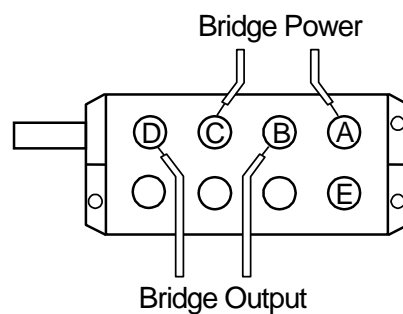

Fig.4-2 Wire connection on Bridge Box
- b. This is a bridge for measuring strain. Various methods are used for connecting strain gauges. For details on these connecting methods, refer to “Examples of Strain Gauge Bridge Configuration” on page 4-2. When using various types of transducers via the bridge box, make connections as shown in Fig.4-2.